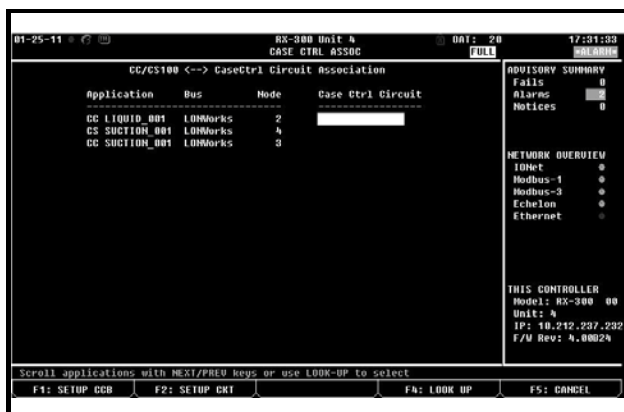

Figure 11-7 - CC/CS100 Circuit Association Screen (RX-400)
4. Press **\$ 4** for Case Control Associations. The Case Control Association screen should look like **Figure 11-7**: